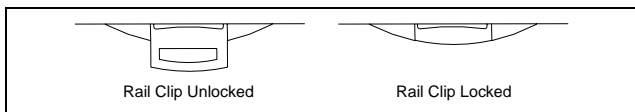

Figure 1. DIN Rail Clip
1. With a flat bladed screwdriver, open the rail clip to the unlocked position as shown in Figure 1.